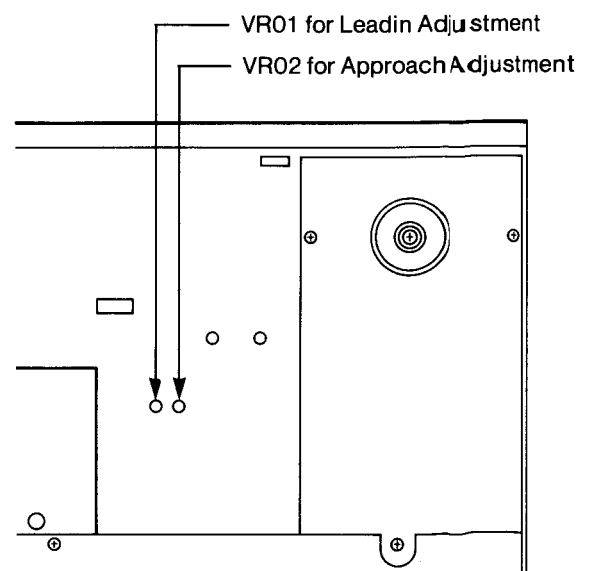

Fig. 7
2. Connect the DC VTVM's between TP2 and GND and between TP3 and GND. (Fig. 7)
3. Adjust VR01 through the hole on the cabinet bottom, so that the tonearm is correctly led into the disc. (Fig. 7)
3. Select the 2nd ~ 6th programs and adjust VR02, so that the last portion of the previous program is not reproduced or music is not reproduced on its way. (Fig. 7)